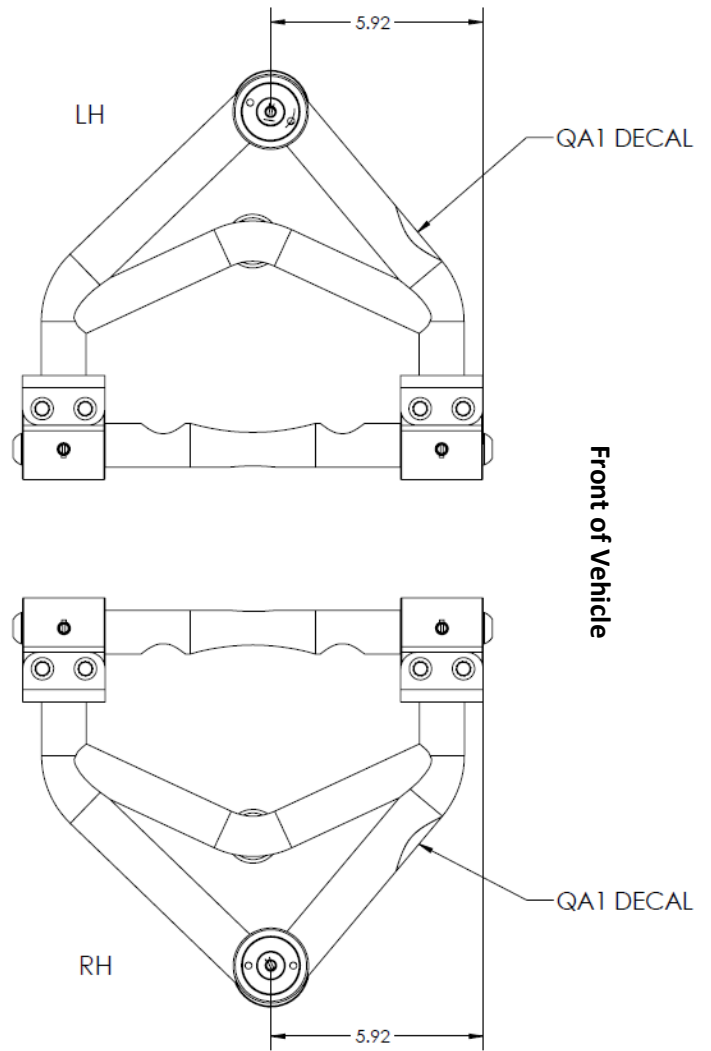

Figure 16; Upper Control Arms
5. Install the provided concave spacers, then the QA1 upper control arm or '63-'72 OE upper control arm with the flat side of the cross shaft towards the mount (**Figure 7**). Torque the nuts to 70 lb. ft. See **Figure 16** for control arm identification.